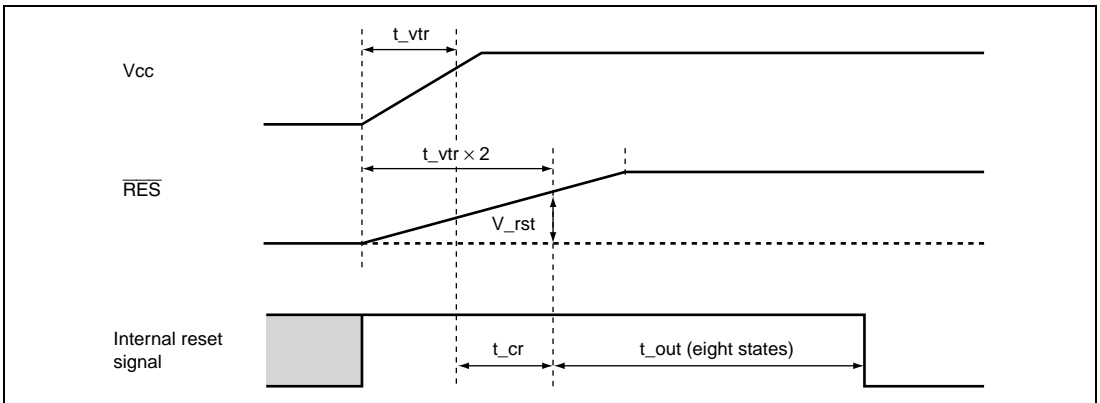

Figure 24.1 Power-On Reset Circuit Reset Timing
3. For details on the power-on reset characteristics, refer to table 24.18 and figure 24.1.